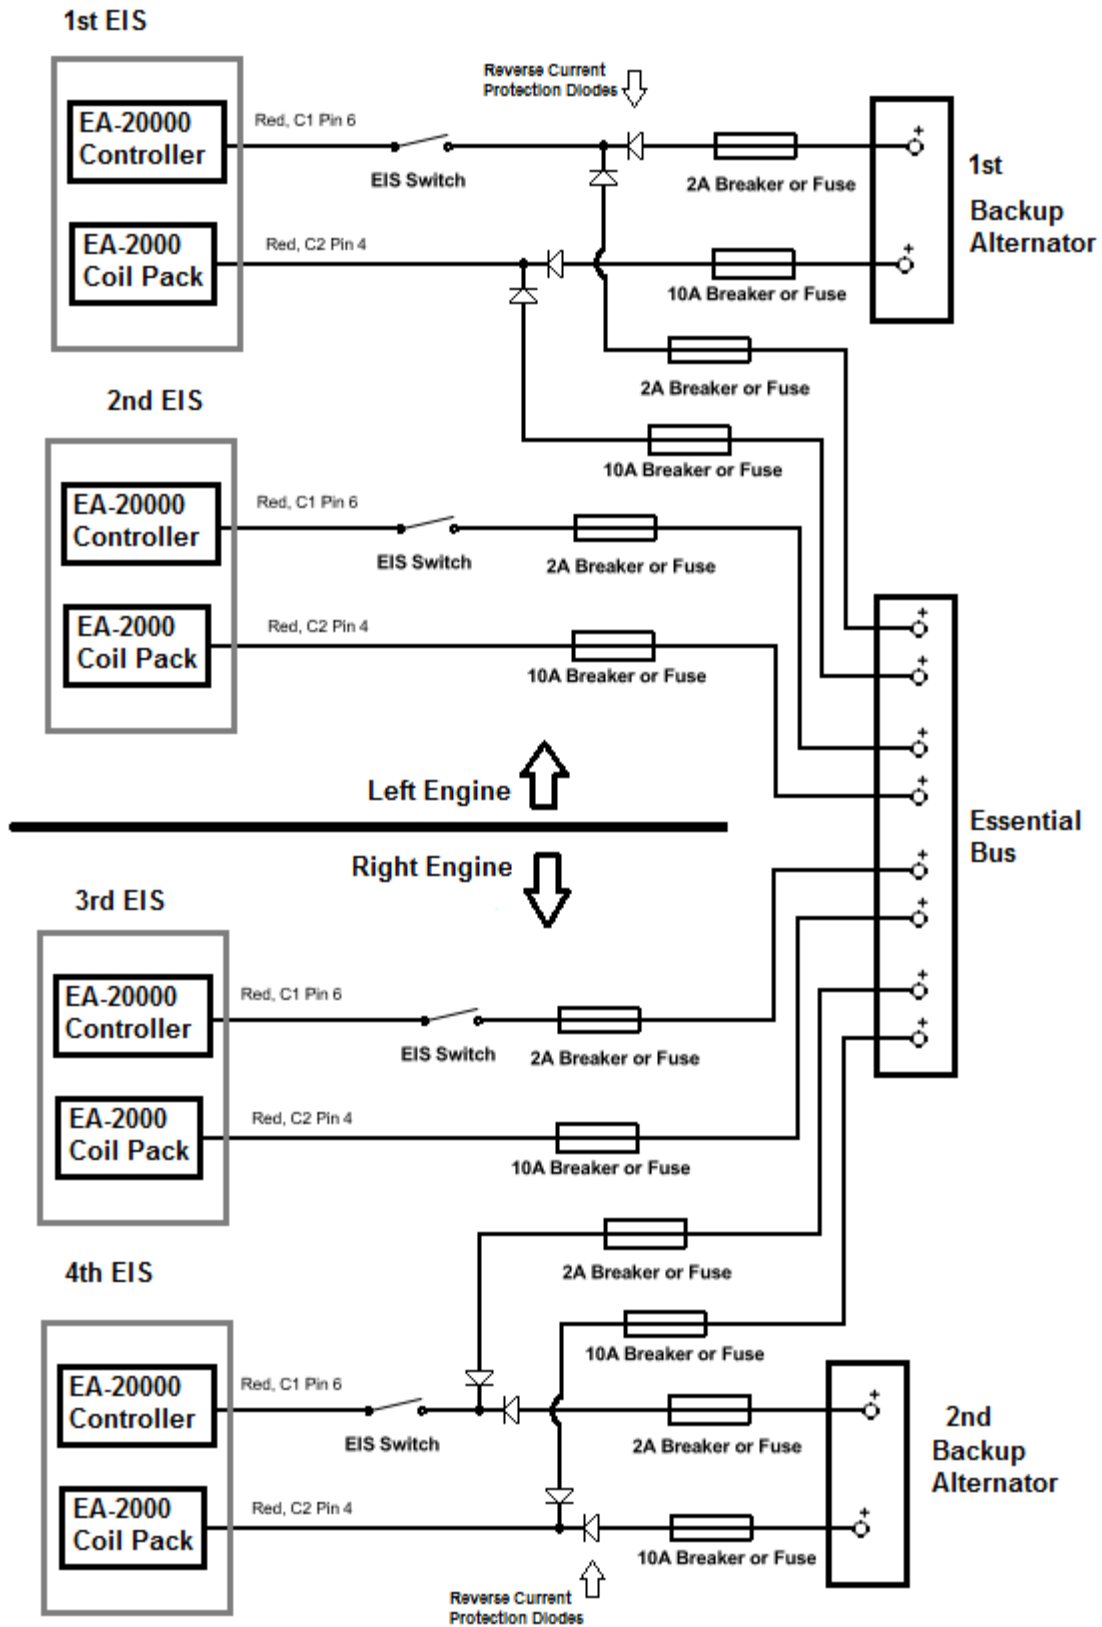

Figure 41: Twin Engine, Dual EIS, Single Electrical System Power Connections
- iv. **Dual EIS installation on both (twin) engines with a single electrical system:** At least two separate backup alternators will be needed. Connect C2-Pin 4 and C1-Pin 6 of one EIS from each engine to the electrical system (through 10A and 2A breaker or fuses). Connect C2-Pin 4 and C1-Pin 6 of one EIS on each engine to the separate backup alternators and essential bus using current protection diodes (through 10A and 2A breaker or fuses). See Figure 41.